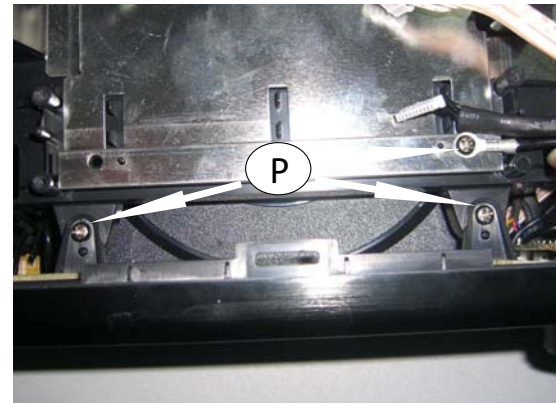

Figure 16
- 2) Loosen 3 screws "P" to detach top shielding late as shown in figure 16.